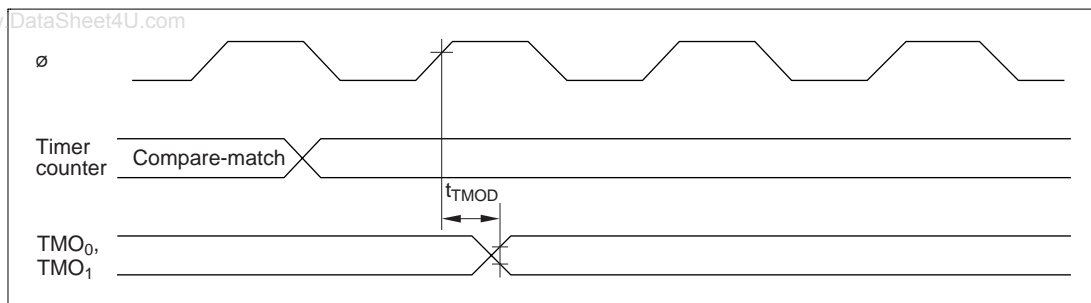

Figure 19.12 8-Bit Timer Output Timing
19.3.4 8-Bit Timer Timing	Figures 19.12 to 19.14